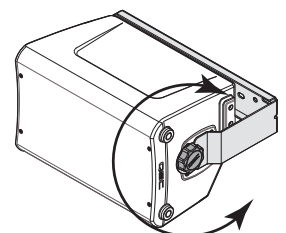

Figure 5
4. Slide the narrow shaft of the screws into the slot (1) and all the way to the bottom of the slot. The shoulder part of the screw will not fit in the slot.
5. With the screws all the way down into the slots, turn the knob or button-head hex screw until the shoulder is engaged into the slot. When the shoulder is engaged (2), the screw will not slide back up the slot.
6. Position the loudspeaker at the desired angle (Figure 5) then do one of the following: